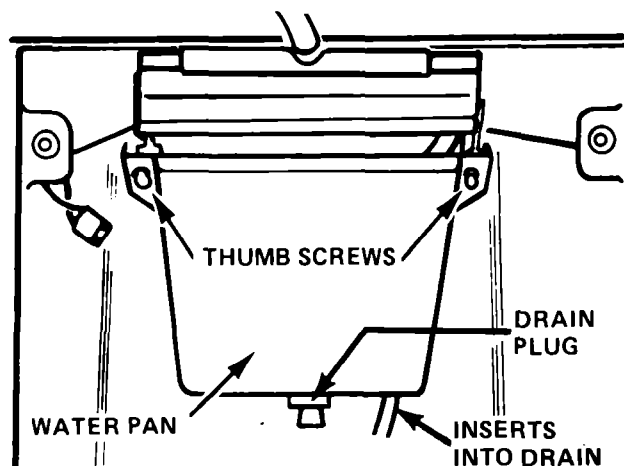

FIGURE 5
12. Remove water pan, (two thumb screws) Figure 5.